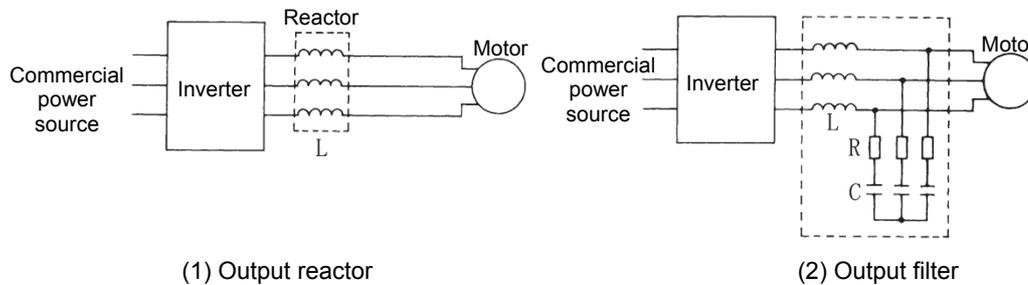

Figure C-3 Method to Suppress Surge Voltage
(1) Output reactor
If wiring length is relatively short, the surge voltages can be suppressed by reducing the voltage rise time (dv/dt) with the installation of an AC reactor on the output side of the inverter. Refer to Figure C-3 (1).
(2) Output filter
Installing a filter on the output side of the inverter allows the peak value of the motor terminal voltage to be reduced. Refer to Figure C-3 (2).